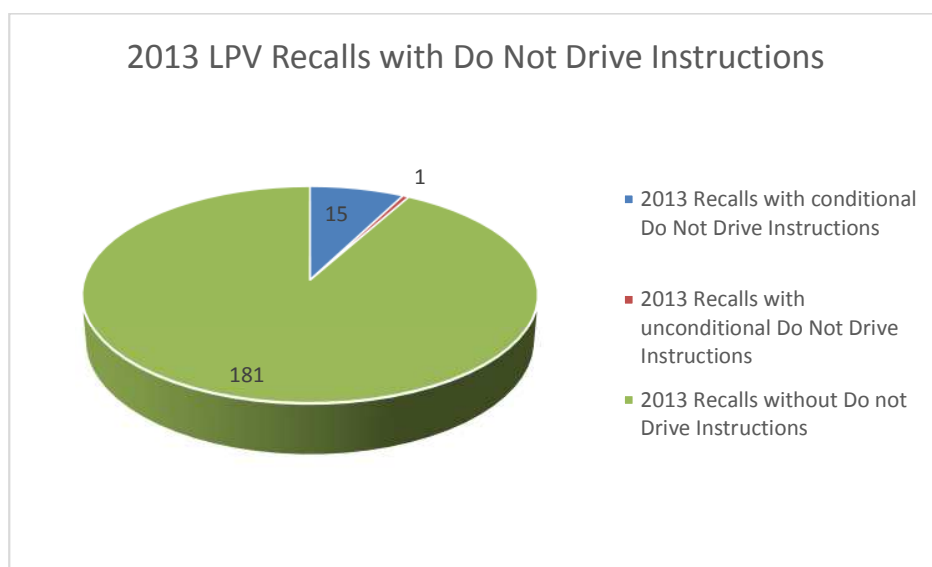

Figure 1. 2013 LPV Recalls with Do Not Drive Instructions
Sixteen (16) of the one hundred ninety seven (197) 2013 LPV recalls contained DND instructions. Fifteen (15) of those DND instructions were conditional. Fourteen (14) of these recalls with DND instructions were upon owner detection of a defect and one (13V194) if the owner preferred not to operate until repairs were completed. Only one recall (13V103) had an unconditional “do not drive” vehicle instruction. In the graph in figure 1 this single recall is counted and categorized as a recall with “unconditional” DND instructions. For the text detailing the DND instructions for the 2013 LPV recalls see Appendix A-1.